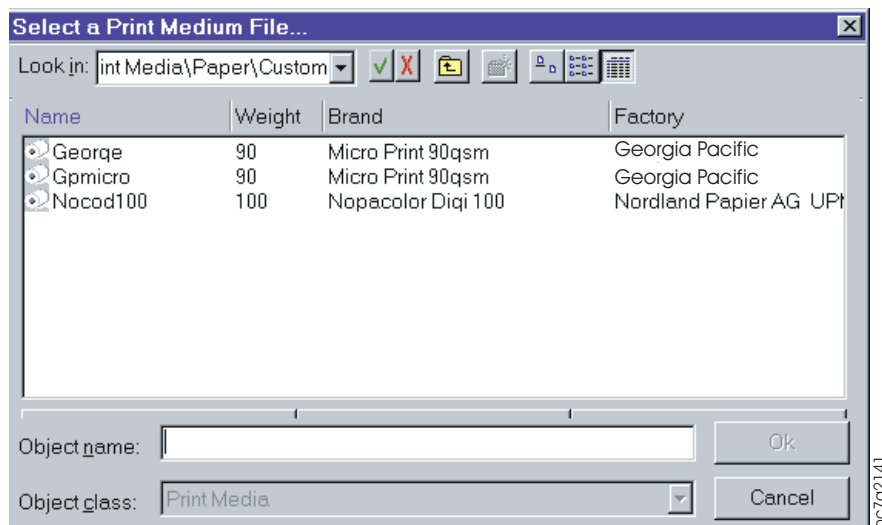

Figure 256. Select a Print Medium File... Window
1. After you load the new paper and press the **Do it** pushbutton, the **Select a Print Medium File...** window opens, as shown in Figure 256.